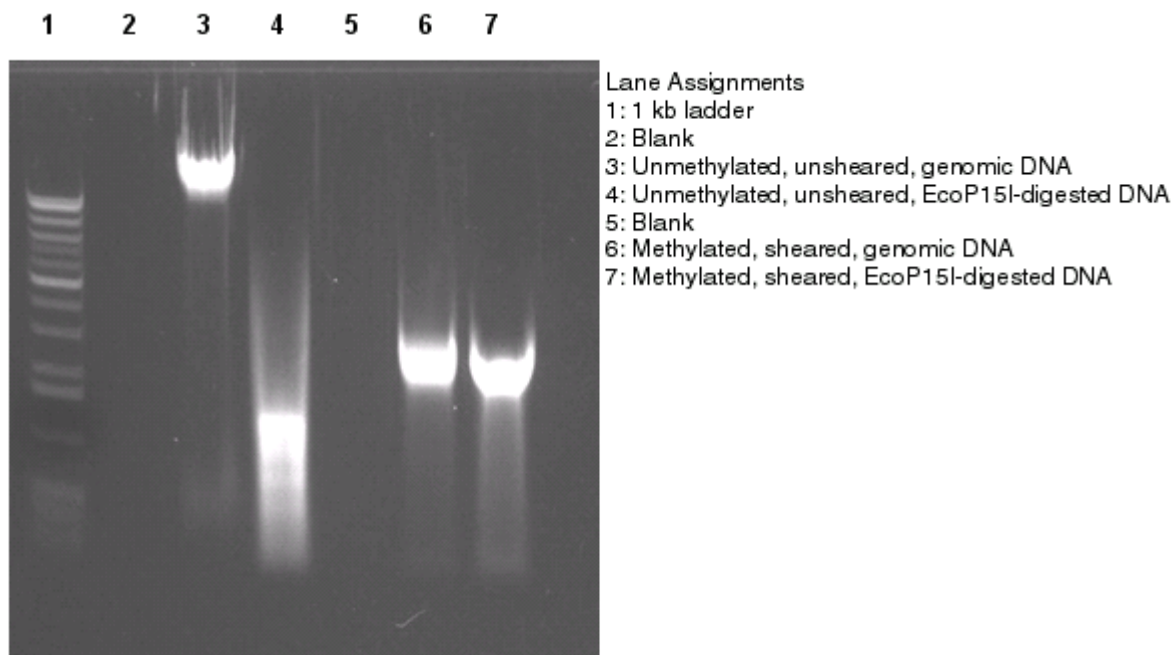

Figure 31 Methylation confirmation gel.
3. Run the gel and confirm that the sheared, methylated DNA is the expected size relative to the controls (see Figure 31 on page 204).